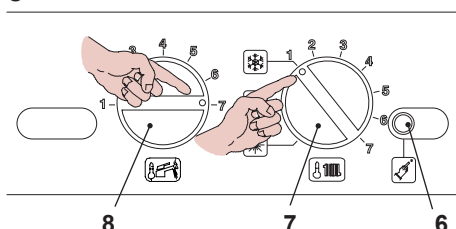
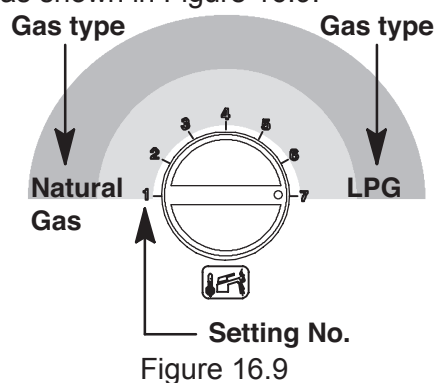

Figure 16.4
Figure 16.9
- Position the knobs 7 and 8 as shown in Figure 16.4.
- To set the type of gas, enter programming by pressing the reset button 6 in Figure 16.4 for 15 seconds until parameter **P01** appears on the LCD display; the following will appear on the LCD display (the sequence **P01** alternates -- -- --).
- Press the reset button 6 Figure 16.4 to scroll the various parameters until reaching the valid parameter **P05** for setting the type of gas; the following will appear on the LCD display (the sequence **P05** alternates with **01**).
Example: If the supplied gas is LPG (G30-G31) and the boiler is setup to operate with natural gas (G20) turn the knob 8 in Figure 16.4 as shown in Figure 16.9.
- Press the reset button 6 Figure 16.4 to access the valid parameter **P06** for setting the type of gas (second level); the following will appear on the LCD display (the sequence **P06** alternates with **01**).
- To change the setting, turn the hot water temperature regulation knob 8 in Figure 16.4 to the preselected position see also Figure 16.9.